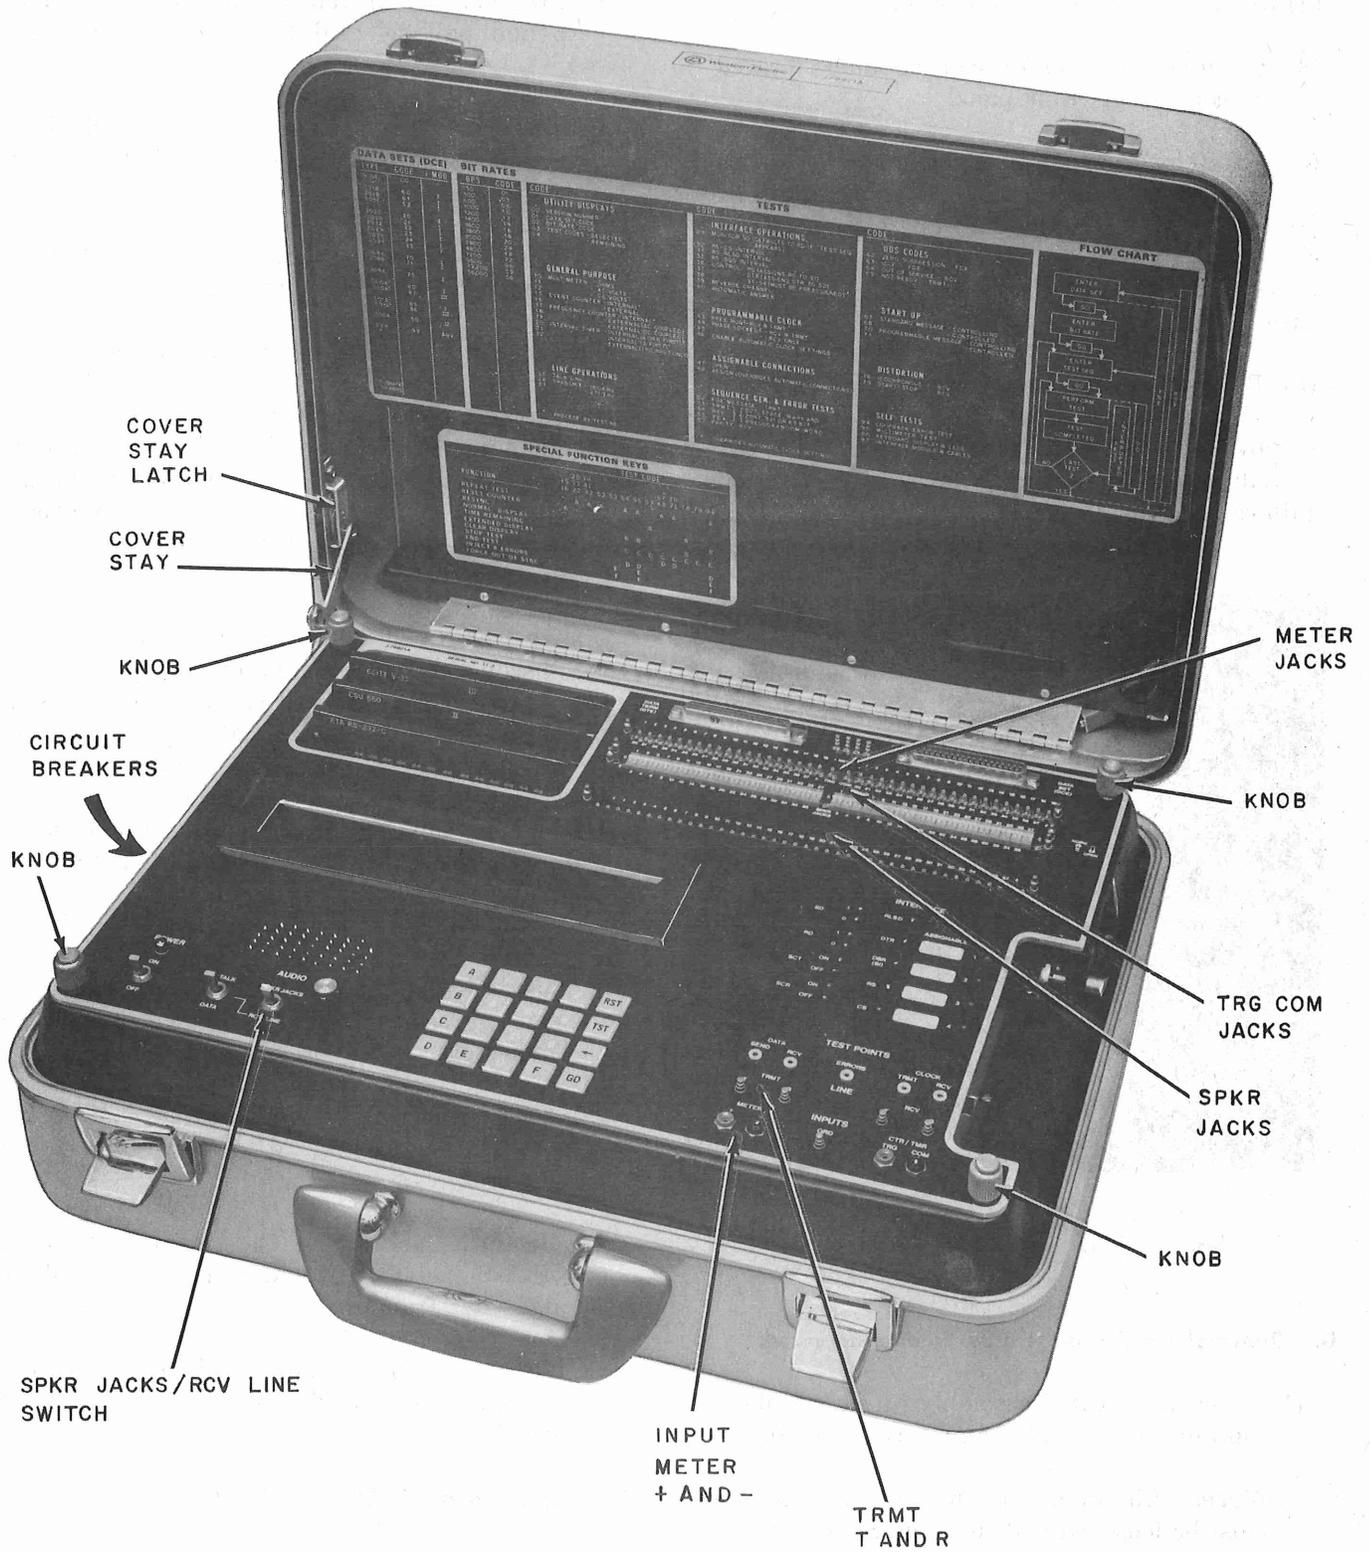

Fig. 3—921A Data Test Set
2.13 After replacing a CP, the DTS must be tested to verify proper operation. If an interface card were replaced, the interface card self-test (97) is a sufficient test. If CP1 or CP4 were replaced, successful passing of all self-tests after RST key is pressed is a sufficient test. If CP2 or CP3 is replaced, the following test procedure is suggested in addition to passing all self-tests (Fig. 3).